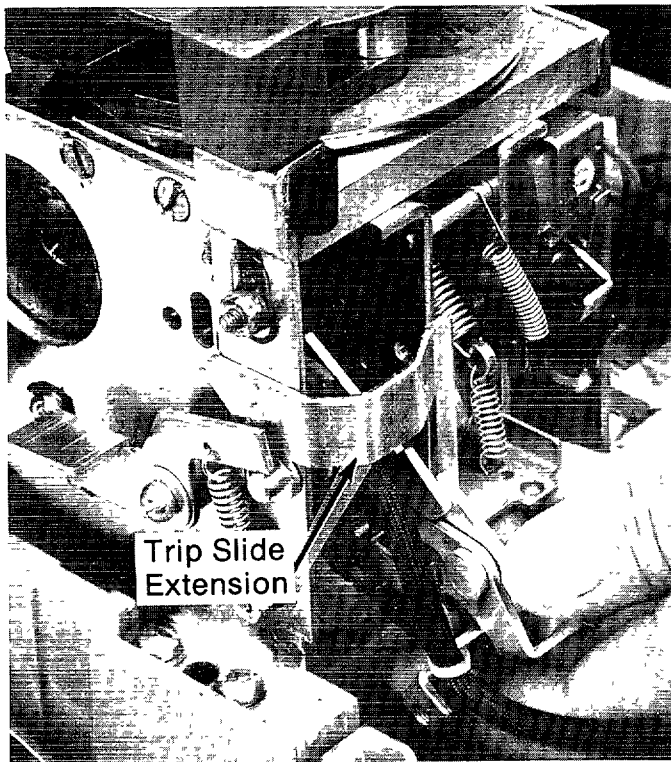

Fig. 4A.
3. Remove the bell alarm mounting screws and, dropping the unit down, pull it out from underneath the trip slide extension as shown in Figs. 4A and 4B.
5. Install the replacement bell alarm in the reverse order of removal of the old unit. See Figs 4A and 4B.